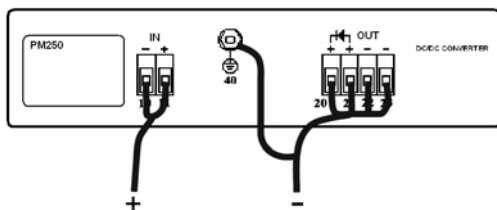

Figure 7. Input to output and input to case isolation voltage test.
- Connect your isolation tester between input and case. See *Figure 7*. Raise the voltage of the isolation tester from 0V to the corresponding isolation test voltage d.c. level according to *Table 2*. Check that the leakage current does not exceed 5μA. The voltage should not be applied for more than a few seconds or the Y-capacitors might be damaged.
- Connect the output terminals of the converter to case. See *Figure 7*.
- Connect your isolation tester between input and case. See *Figure 7*. Raise the voltage of the isolation tester from 0 to 3000Va.c. The voltage should not be applied for more than one (1) minute or the Y-capacitors might be damaged.